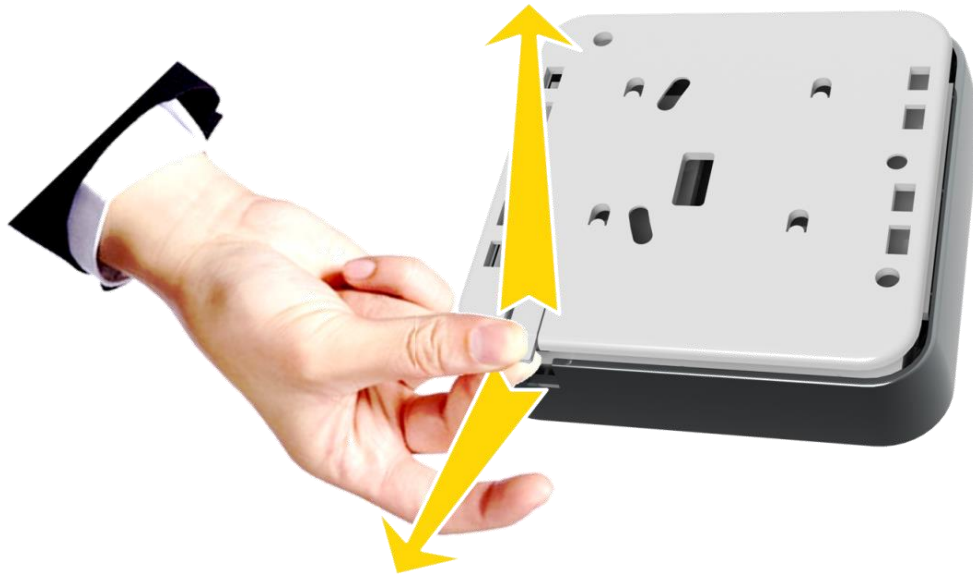
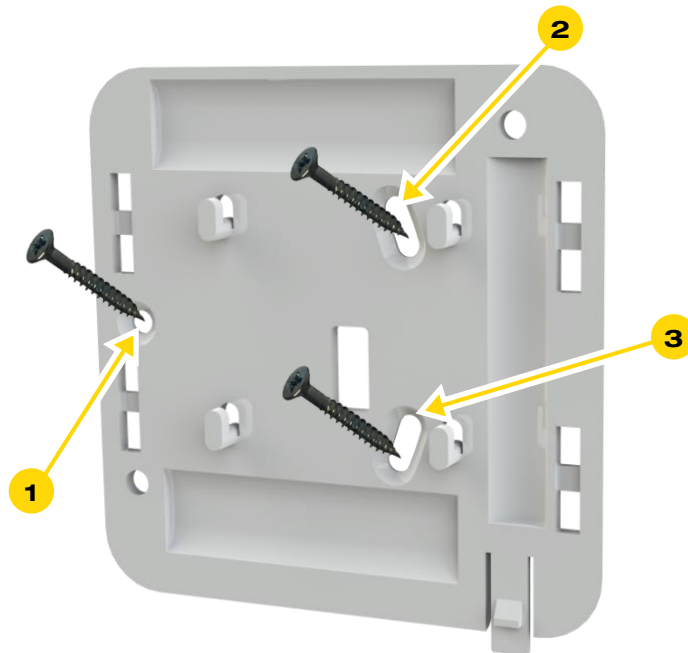

Figure 101: Releasing the Tag Reader Mounting Base
Figure 102: Tag Reader Mounting Base with Screws
The mounting base should be disassembled from the Tag Reader body, as demonstrated in Figure 101 above, and attached either by the double-sided tape (pre-attached to the mounting base) or using screws as demonstrated in Figure 102 below.
1. Release the Tag Reader mounting base by lifting the tab and sliding the base in the tab's direction as demonstrated in Figure 101 above.
3. Drill the holes; insert three (3) dowels if needed, place the base over them and screw in the three (3) screws.